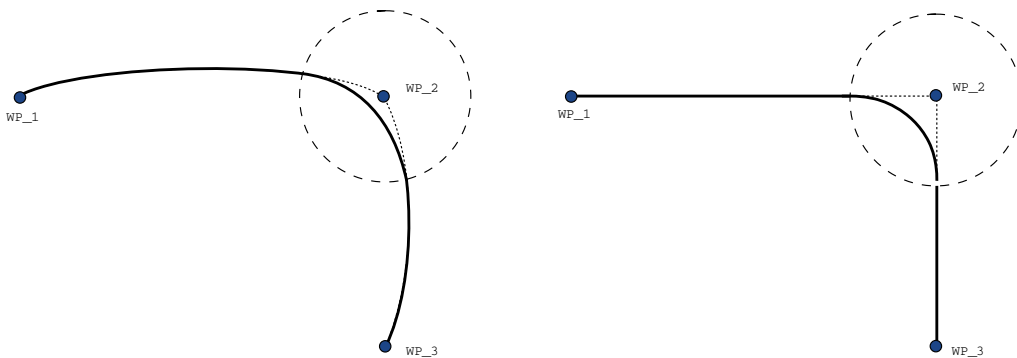

Figure 15.6: Joint space (MoveJ) vs. cartesian space (MoveL) movement and blend.
- **Blends involving MoveJ** MoveJ blends cause a smooth curve in joint space. This goes for blends from MoveJ to MoveJ, MoveJ to MoveL and MoveL to MoveJ. The blend produces a smoother and faster trajectory than the movements without a blend (see Figure 15.6). If velocity and acceleration are used for specifying the velocity profile, the blend stays within the blend radius during the blend. If using *time* instead of *velocity* and *acceleration* for specifying the velocity profile of both motions, the blend trajectory follows the trajectory of the original MoveJ. When both motions are time constrained, using blends does not save time.